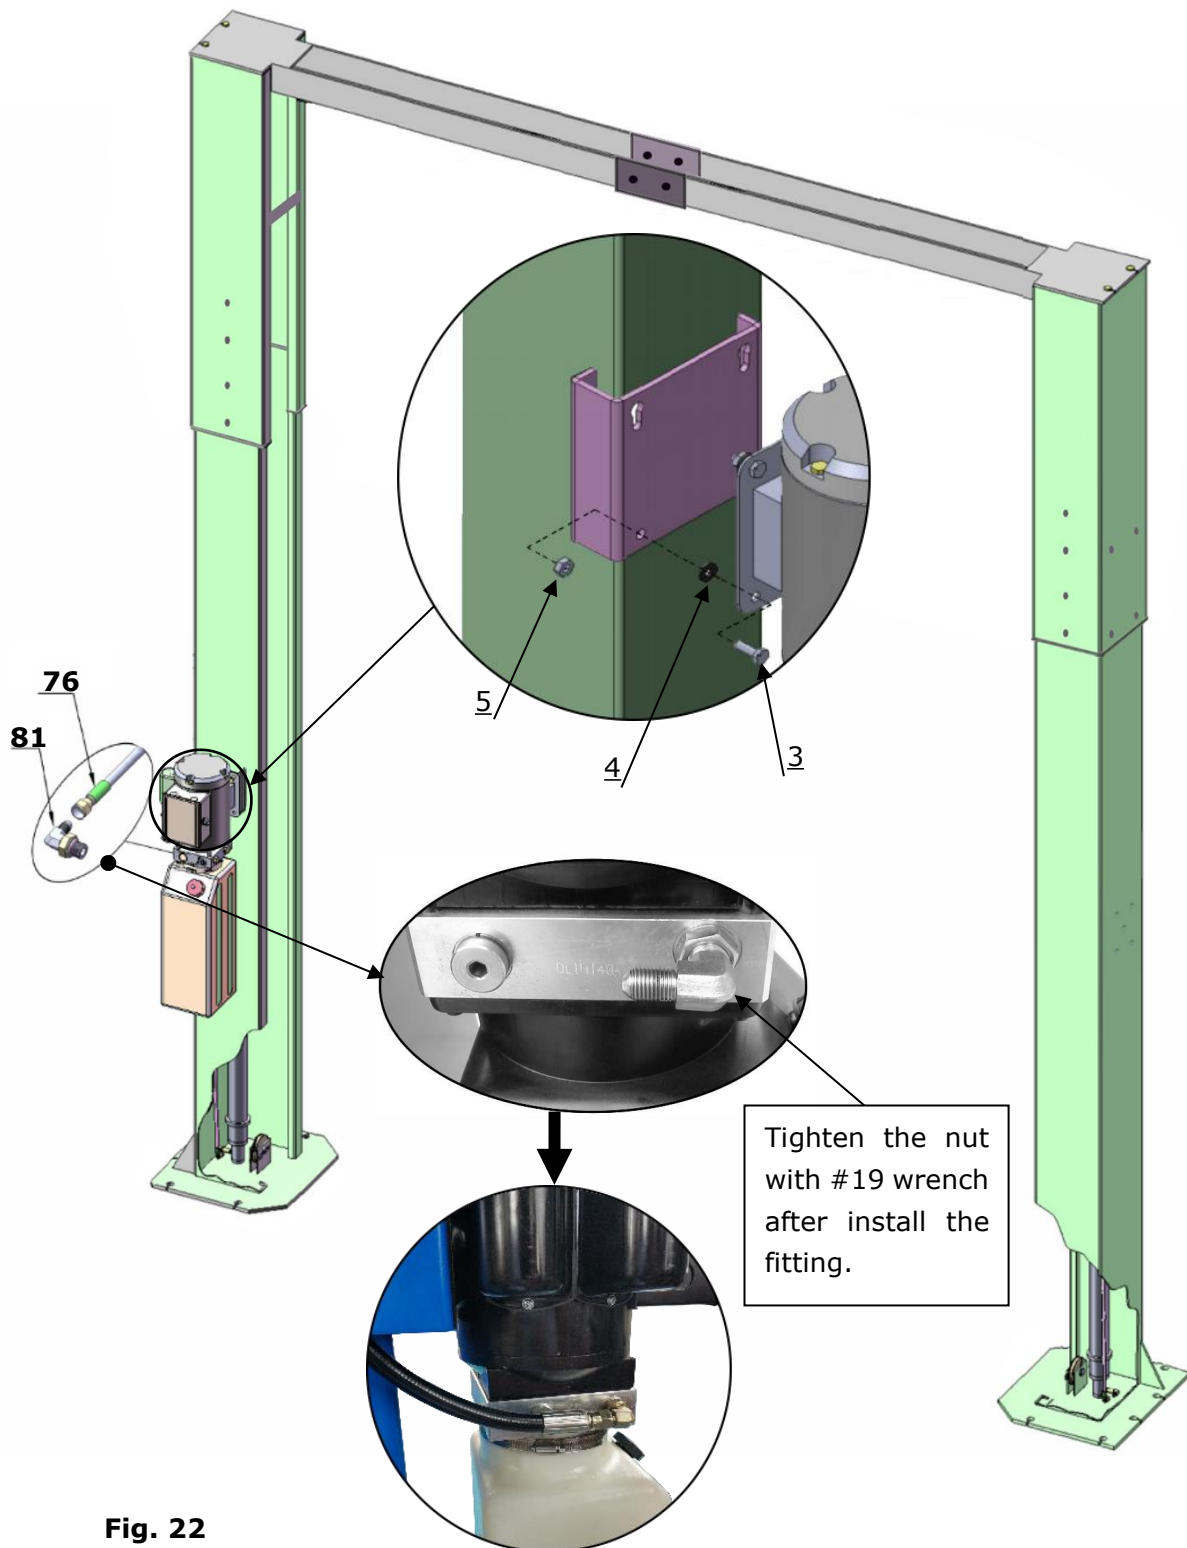

Fig. 22
M. Install power unit and oil hoses (See Fig. 22)